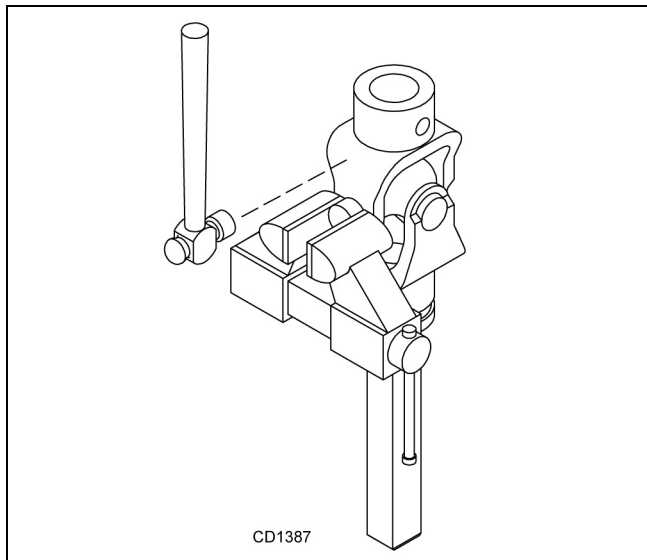

Figure 23. Remove Cups
3. Clamp cup in vise as shown in Figure 23 and tap on yoke to completely remove cup from yoke. Repeat Step 2 and Step 3 for opposite cup.